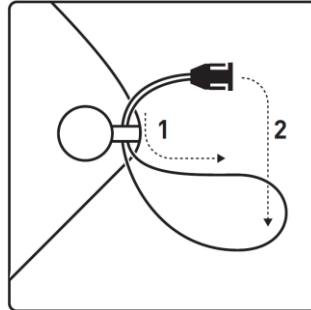

Fig. 13 How to adjust the neck lanyard
Attach each of the two end loops of the neck lanyard to the attachment holes (1) of the recorder and connect the neck lanyard to the adjustment clips (2) supplied. Finally adjust the length of the neck lanyard (Fig. 13) to suit your needs.